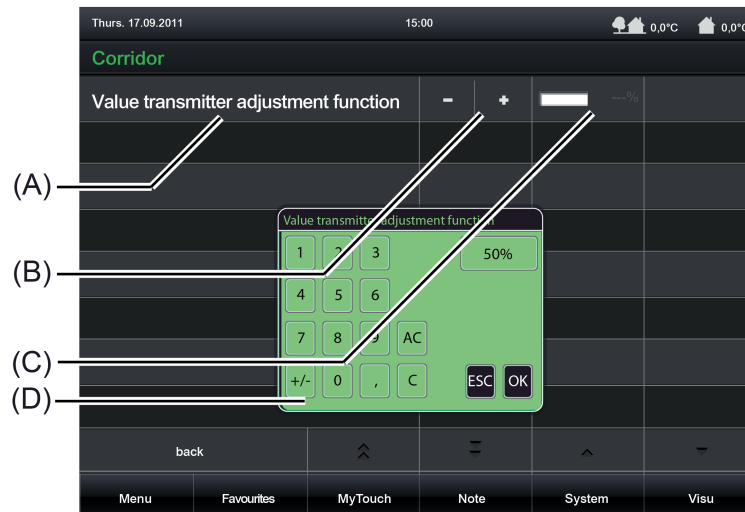

Figure 27: Example of operating and display elements of the function "value transmitter adjustment function" with a data format "1-byte 5.001...5.004"
The display area contains different display elements (Figure 27) that are influenced by parameters. A name can be assigned to each KNX function in the configuration software (A). The sensor surface for direct operation (B) displays the sensor surfaces + or -, which will transmit a telegram corresponding to the set value when touched. The display area (C), which is a sensor surface for dialog operation at the same time, will contain a graphic setpoint display. A dialog window (D) for dialog operation where the setpoint can be entered directly will open by touching the sensor surface.